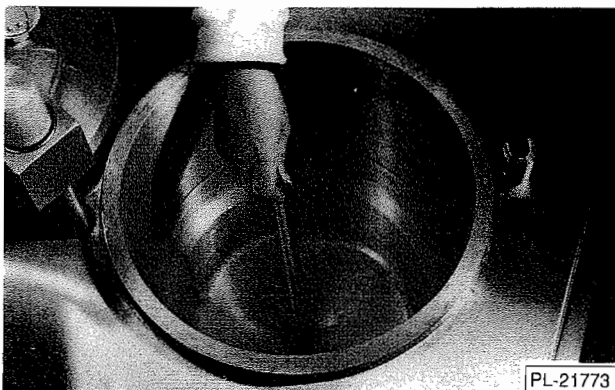

Fig. 16
5. While oil is out of the kettle, remove any excess breading from the bottom of the kettle. Use the wooden stick provided to dislodge any material that may have collected in the kettle drain (Fig. 16).